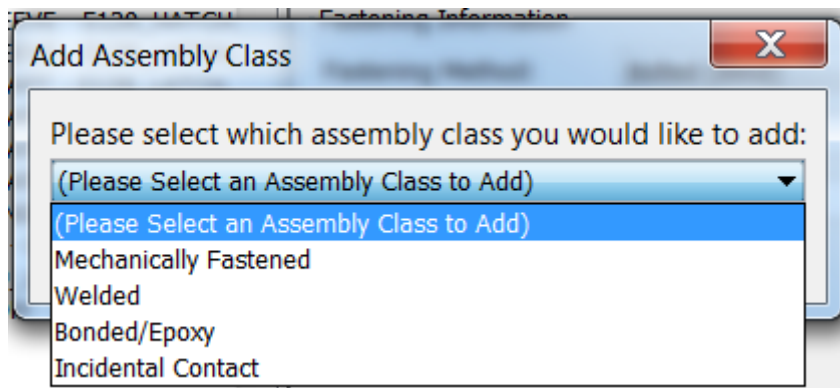
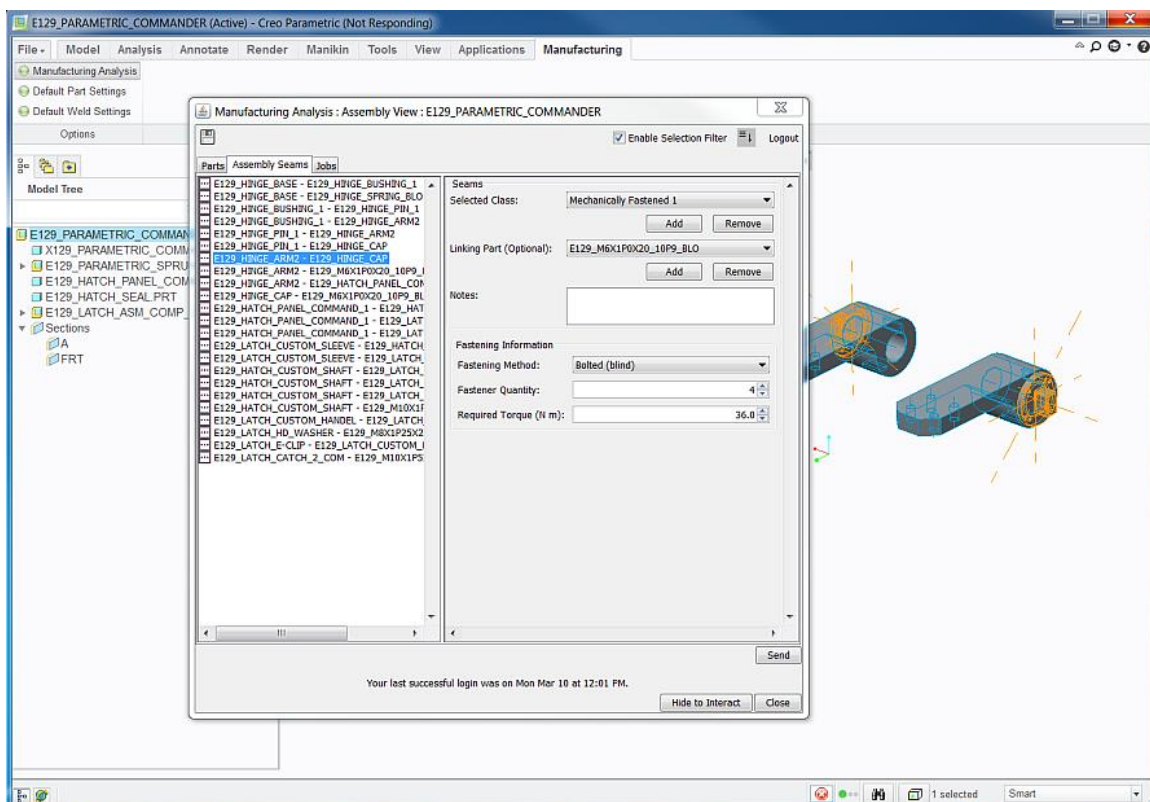

Figure 15: Assembly seam class selection
Figure 16: Adding assembly class specification (example shows Mechanically Fastened)
Begin the assembly seam definition by clicking the Add button under (Please Add an Assembly Class), and selecting from one of the available assembly classes, as shown in Figure 15. A completed Mechanically Fastened seam definition is shown in Figure 16, where the Fastening Method (“Bolted (Blind)”), Fastener Quantity (4), and Torque Requirement (36 Nm) are specified. Also shown in Figure 16 is the selection of the linking parts for that seam. Linking parts are those BOM items that are needed to complete the assembly process (e.g., fasteners, clamps, etc.). In the example shown in Figure 16, a hex cap screw is selected as the linking part for the seam.